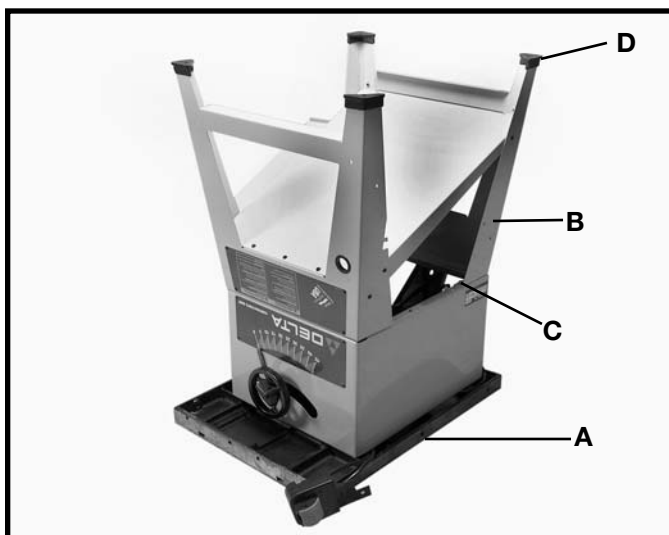

Fig. 8
1. Turn saw table face down. Place stand (B) Fig. 8, onto saw (A). Align eight holes in the stand (B) with mounting holes in the saw (A) and fasten with eight 5/16"-18 screws, flat washers, lockwashers, and hex nuts one of which is shown at (C) Fig. 8. Assemble flat washers onto screws, place screws through holes, assemble lockwashers then hex nuts finger tight. Do not completely tighten hardware at this time.
2. Install four rubber feet (D) Fig. 8, on the end of each stand leg (B).